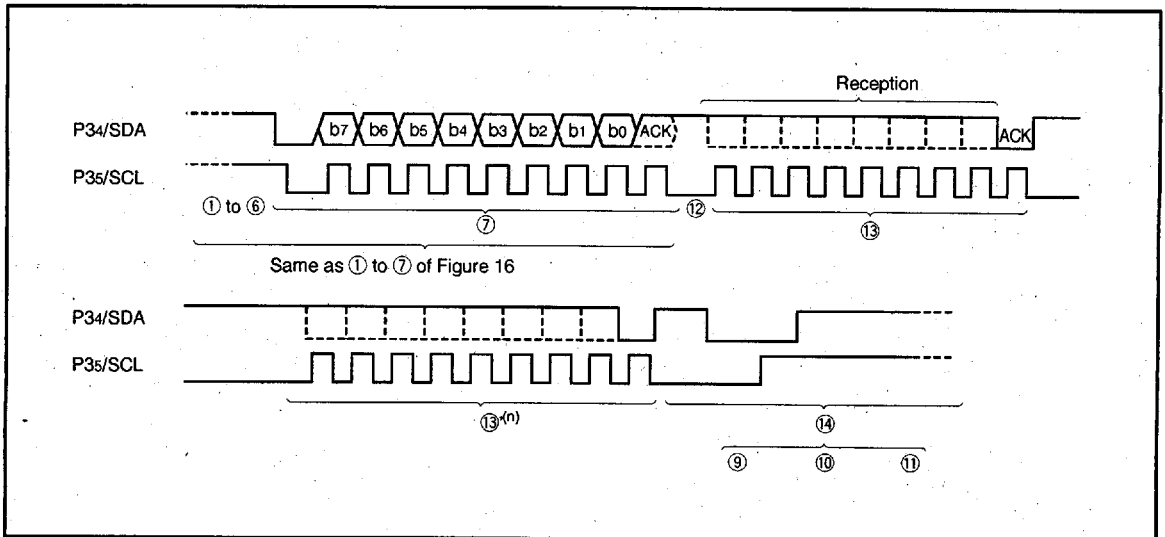

Fig. 17 Master reception timing
- Figure 17 shows master reception timing.